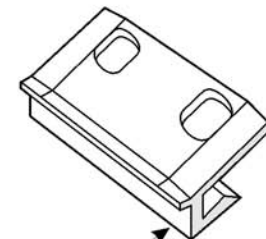

Figure 3
1. Remove the caliper assembly from the anchor plate and install the selected shim on the anchor plate v-way (see figure 3).